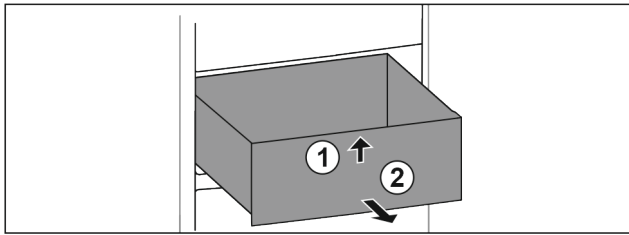

Fig. 138
- ▶ Lift up drawer at the front. Fig. 138 (1)
- ▶ Remove drawer to the front. Fig. 138 (2)